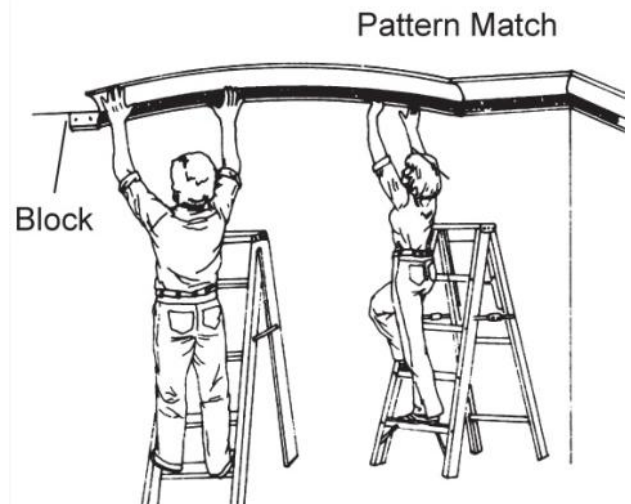

FIGURE 2
- Cut moldings 1/4" longer and spring into place. If necessary, screw a wooden block to the wall and spring molding against the block. Screw or nail molding into place then remove the block (*see Figure 2*).